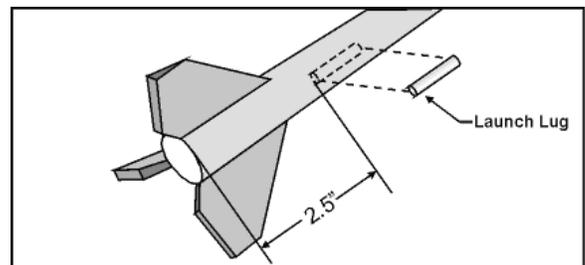

Figure 15
- Run a bead of glue along the seam of the Launch Lug and attach the on the launch lug line, $2\frac{1}{2}$ " from the bottom of the Body Tube and between two fins, as shown in **Figure 15**.